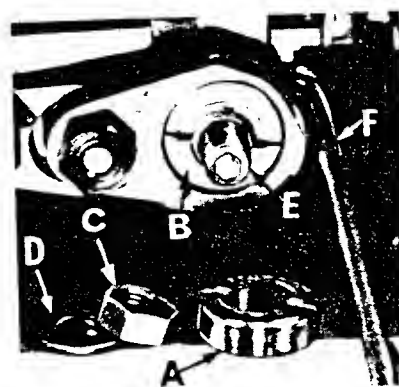

Fig. 14
Length of stitch is determined by the combination of feed eccentrics used. Outer (left) eccentric (A, Fig. 14) actuates main (rear) feed dog; while the inner (right) eccentric (B) actuates the differential (front) feed dog.